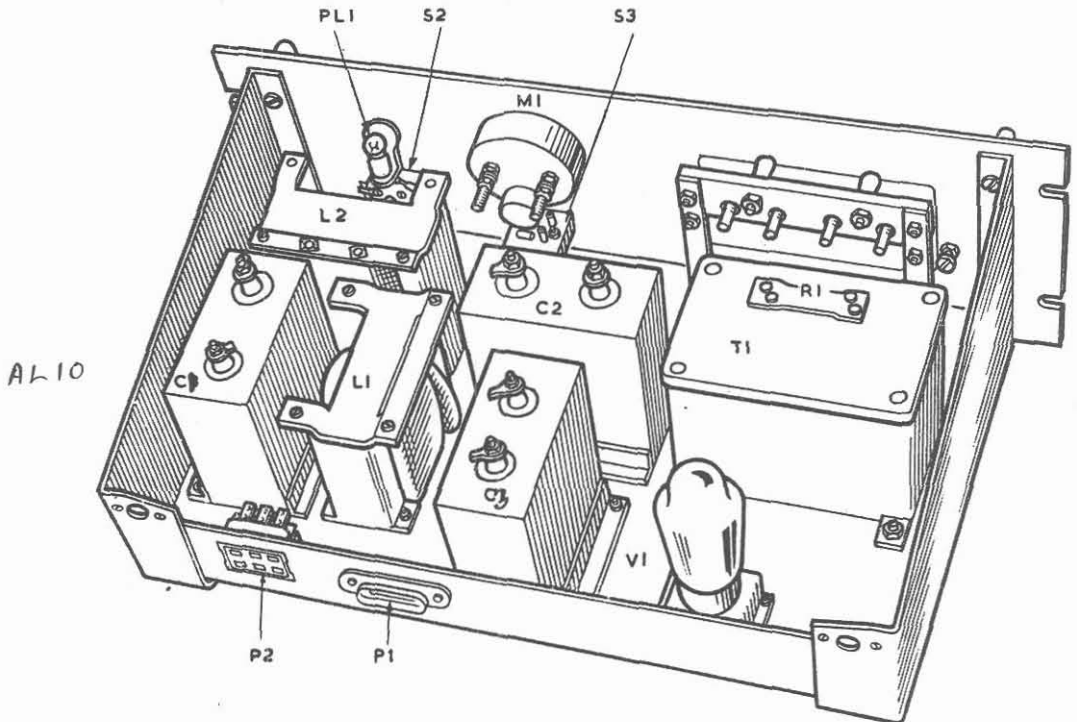

Fig. 3. Power unit Type 234A, top view
8. Fig. 3 gives a view of the power unit from the rear and shows the mechanical construction. The metal chassis carrying the heavy components is strengthened by bracing it to the front panel by two brackets at either side.